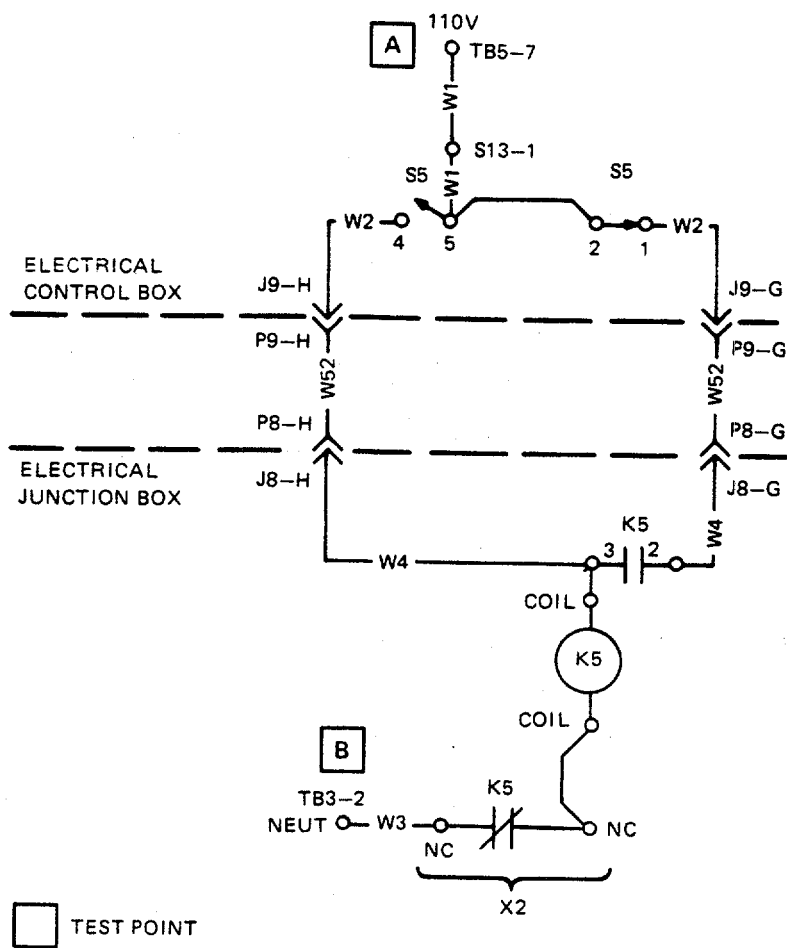

Figure 3-4. Booster Pump Assembly Support Diagram
Ensure that all circuit breakers are set. Refer to figure FO-3 for schematic diagram and figure FO-4 for interconnection diagram. Refer to figure 3-1 for control box support diagram, figure 3-2 for junction box support diagram, and figure 3-4 for booster pump assembly support diagram.
- Step 3. Shut down ROWPU. Refer to TM 10-4610-239-10. Shut down power. Refer to generator manual. Refer to booster pump support diagram figure 3-4. Hold BOOSTER PUMP switch in START position. Check continuity point-to-point between test points A and B through S6-5 and S6-4.
- Step 4. Shut down ROWPU. Refer to TM 10-4610-239-10. Shut down power. Refer to generator manual. Set BOOSTER PUMP switch to RUN position. Refer to booster pump assembly support diagram figure 3-4. Check continuity point-to-point between test points A and B through S6-2 and S6-7.